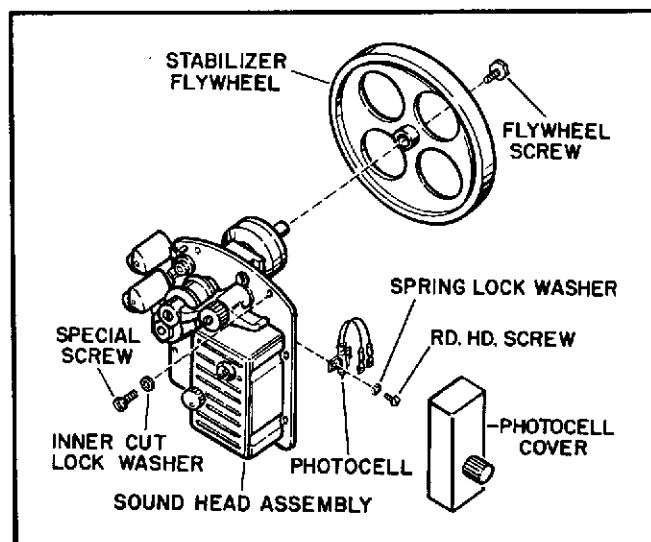

Figure 4-7. Photocell Replacement
- b. Remove flywheel screw (figure 4-7) and pull the